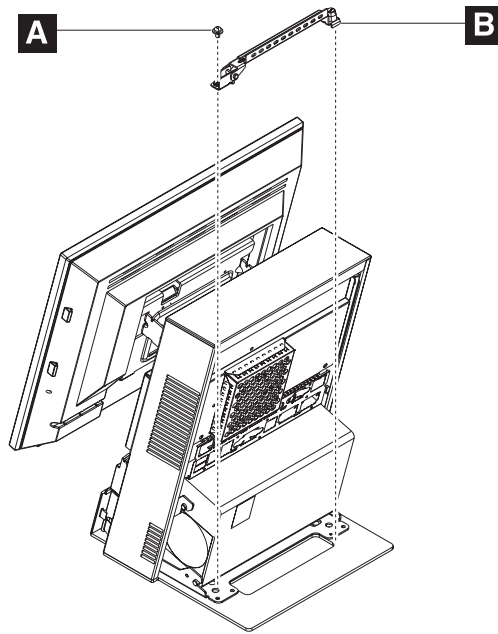

Figure 49. Cable-tie bar remove and replace
2. Remove the screw **A** and thumbscrew **B** , as shown in Figure 49.